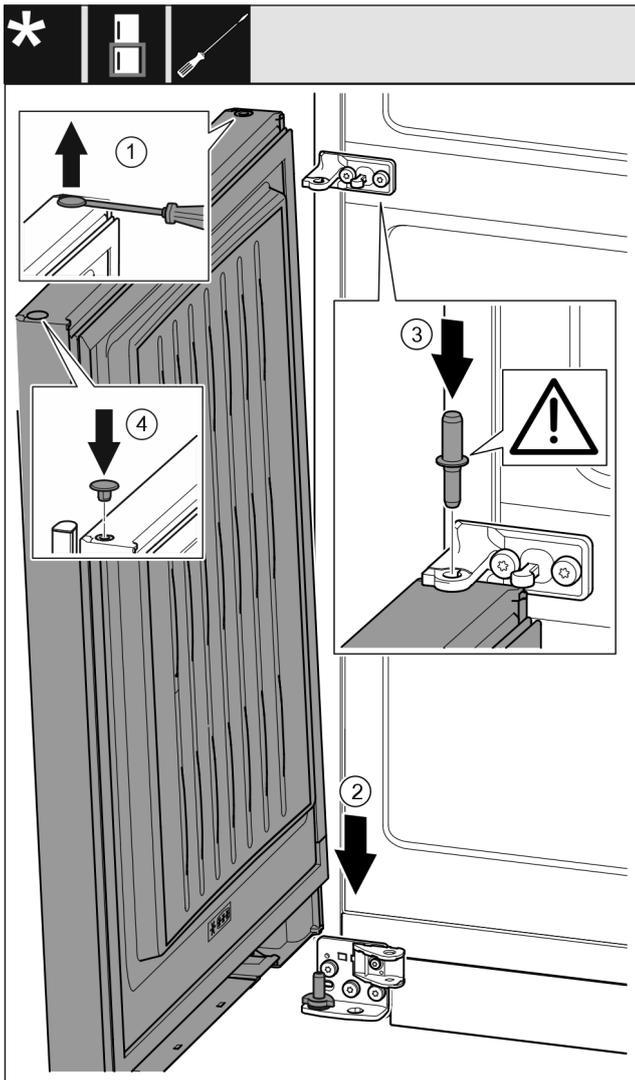

Fig. 48
- ▶ Use a slotted screwdriver to lift the plug Fig. 48 (1) carefully and pull it out.
- ▶ Lower the door Fig. 48 (2) onto the bottom bearing bolt.
- ▶ Insert the centre bearing bolt Fig. 48 (3) through the centre bearing block in the lower door. Ensure that the latching cam is pointing towards the rear.
- ▶ Re-insert the plug Fig. 48 (4) on the other door side.